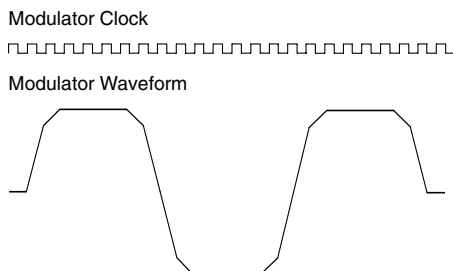
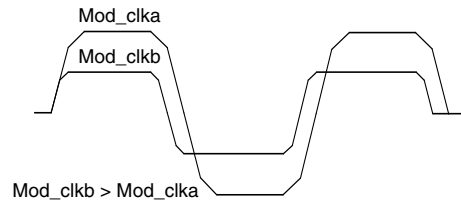

Figure 19. Modulator Waveform and Clock
Figure 20. Two Different Modulator Clock Setting
The modulator waveform is created by charging and discharging a capacitor. A modulator clock controls the timing, as shown in Figure19. For every rise-and fall edge, 4 clock periods are being used. The charging current during these 4 clock periods are not equal, this is to reduce the high frequency components in the waveform, which in turn will narrow the frequency spectrum.
where  $f_{\text{MOD\_CLK}}$  is the modulator clock shown in Figure 19,  $f_{\text{XCO}}$  is the crystal oscillator frequency Refclk\_K is a 6 bit number and Mod\_clkS is a 3 bit number. Mod\_clkS can be set to a value between 0 and 7. The modulator clock frequency should be set according to the bit rate and shaping.
A  $f_{\text{MOD\_CLK}}$  of 8 times the bit rate (as in Figure 20) corresponds to a signal filtered in a gaussian filter with a Bandwidth (Period-product (BT)) of 1. When BT is increased, the waveform will be less filtered. Minimum BT is 1 (Mod\_clk is 8 times the bitrate). Figure 20 shows two waveforms with BT=1 and BT=2, i.e. the Mod\_clk is 8 and 16 times higher than the bit rate. When changing the BT factor, the charge-and discharge times will also be changed, and therefore the frequency deviation, as shown in Figure 19.